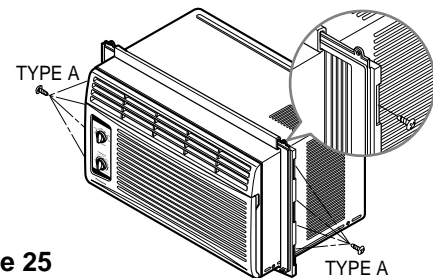

Figure 25
1. Insert the guide panels into the guides of the air conditioner. Fasten the curtains to the unit with screws (TYPE A), as shown Fig. 25.